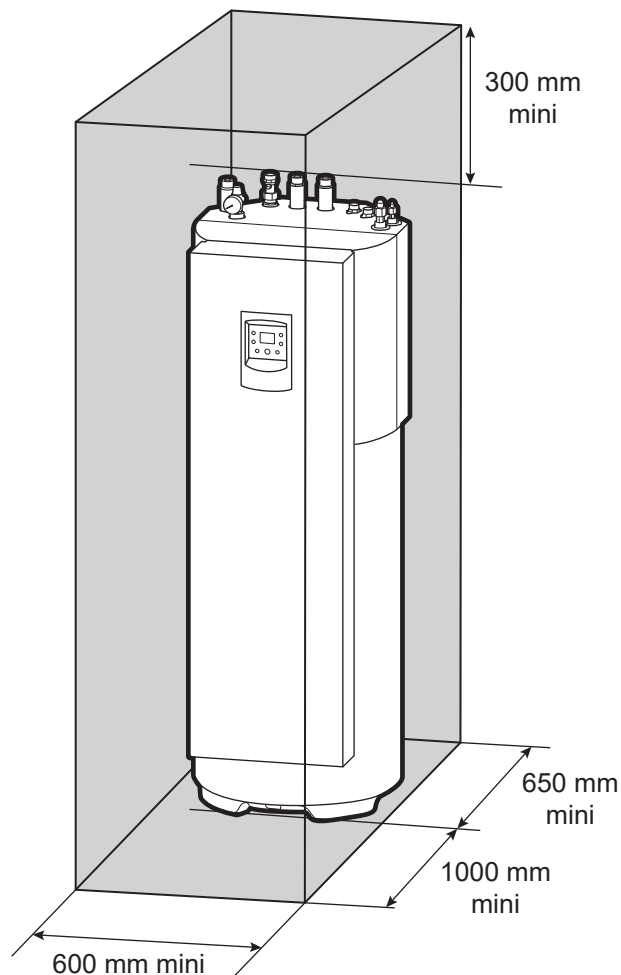

fig. 16 - Minimum installation clearances around the hydraulic unit
- To facilitate maintenance and to allow access to the various components, we recommend that you provide sufficient space all around the hydraulic unit (fig. 16).